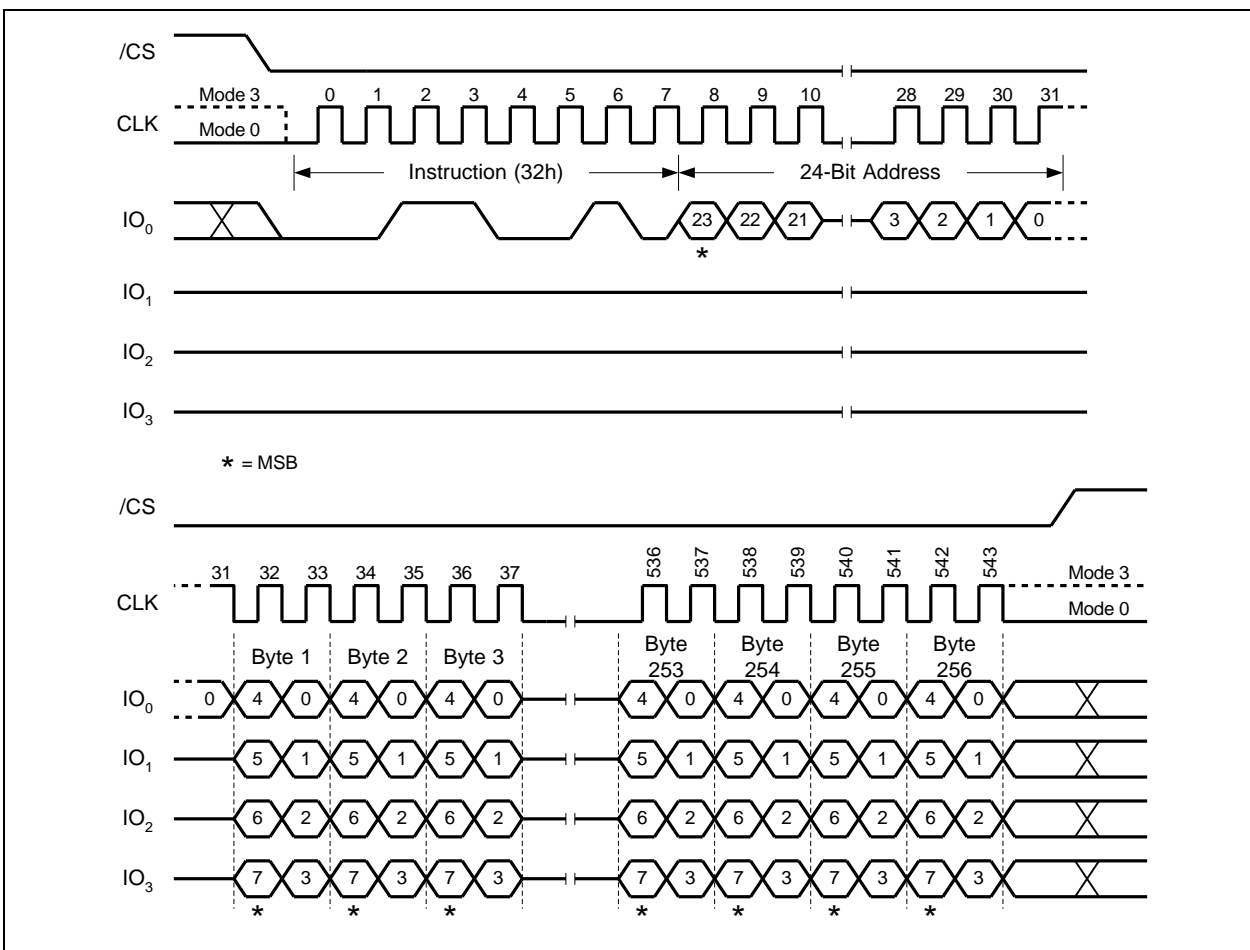

Figure 30. Quad Input Page Program Instruction (SPI Mode only)
To use Quad Input Page Program the Quad Enable (QE) bit in Status Register-2 must be set to 1. A Write Enable instruction must be executed before the device will accept the Quad Input Page Program instruction (Status Register-1, WEL=1). The instruction is initiated by driving the /CS pin low then shifting the instruction code "32h" followed by a 24-bit address (A23-A0) and at least one data byte, into the IO pins. The /CS pin must be held low for the entire length of the instruction while data is being sent to the device. All other functions of Quad Input Page Program are identical to standard Page Program. The Quad Input Page Program instruction sequence is shown in Figure 30.